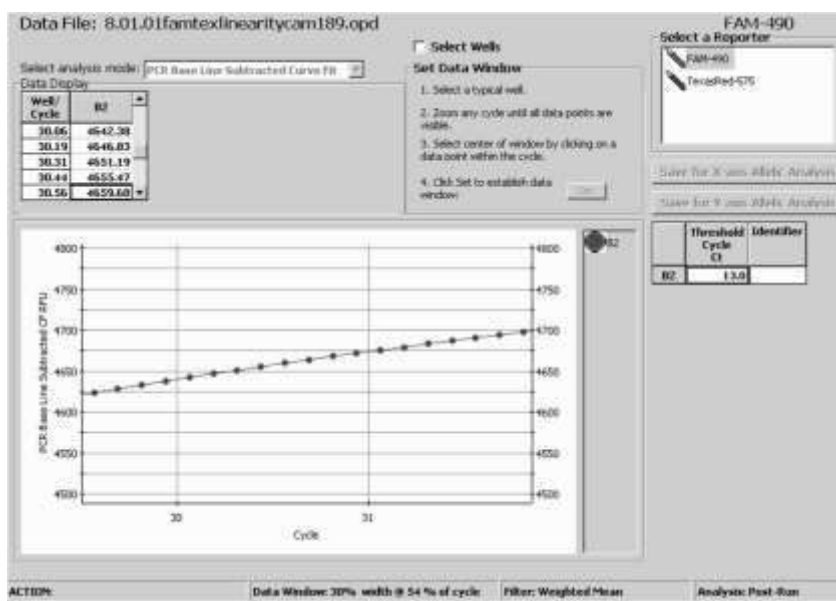

Fig. 7.14. Zoomed in view.
6. Choose any single well by clicking on its paint pot to the right of the plot, and then while holding down the Shift key, drag the mouse across a section of the plot to zoom in on. You may zoom more than once. (Figure 7.14)